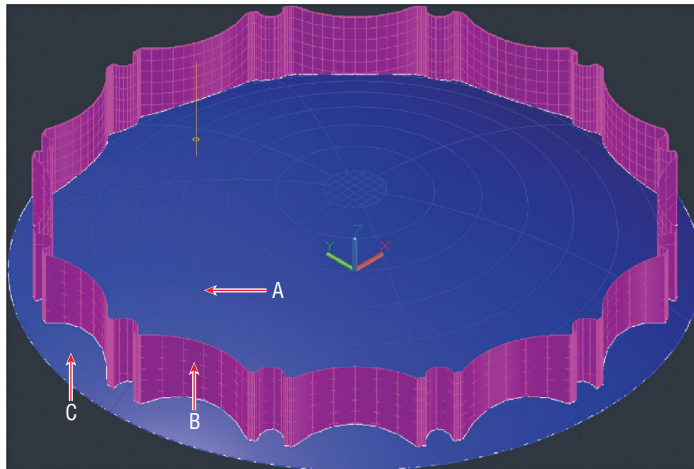

FIGURE 17.8 An extruded surface (in magenta) poking through the dome membrane (in blue)
3. Hover the cursor over the Layer Properties Manager's title bar to reveal the palette. Toggle on the Dome Membrane layer. Double-click the Dome Membrane layer's icon to set it as current. Figure 17.8 shows the result.
Click point A in Figure 17.8 and press Enter.
Click point B in Figure 17.8 and press Enter.
Click point C in Figure 17.8 and press Enter. The SURFTRIM command ends.